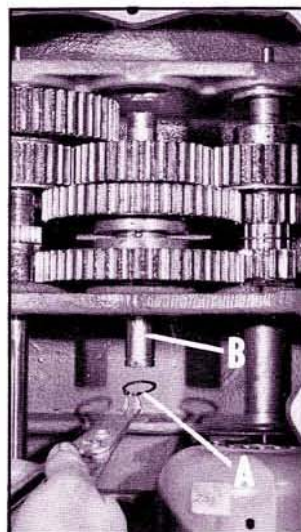

Fig. 27
9. Assemble snap ring (A) Fig. 27, to bottom of shaft (B), and drive shaft (B) all the way up as shown in Fig. 28. Make sure that the two roll pins (C) Fig. 28, and the three balls, one of which is shown at (D) Fig. 28, are still in place.